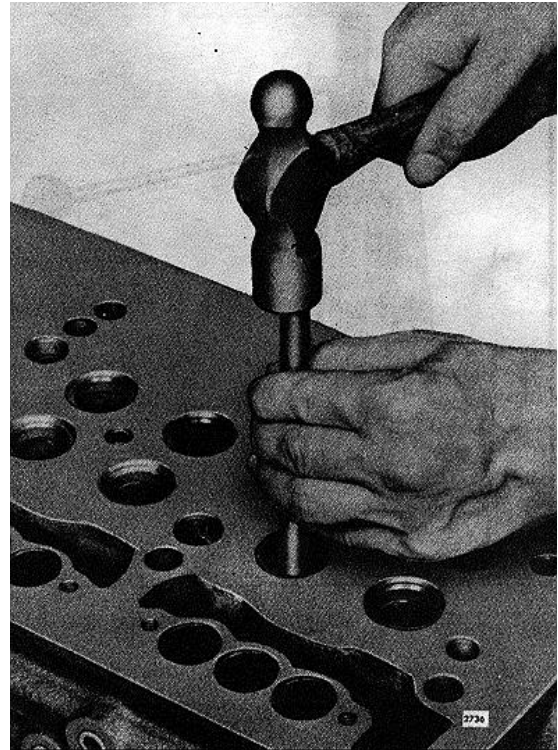

FIG. 7 Removing Exhaust Valve Guide
3. Drive the valve guide out of the cylinder head with valve guide remover J 267 (two-valve head) or J 6569 (four-valve head) as shown in Fig. 7.